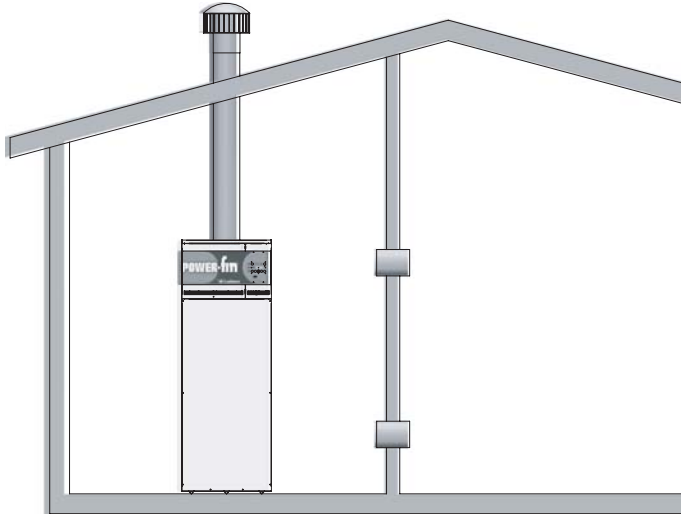

Figure 1-4_Combustion Air from Interior Space
- If air is taken from another interior space, each of the two openings specified above should have a net free area of one square inch for each 1000 Btu/hr (22 cm² per kW) of input, but not less than 100 square inches (645 cm²) (see FIG. 1-4).